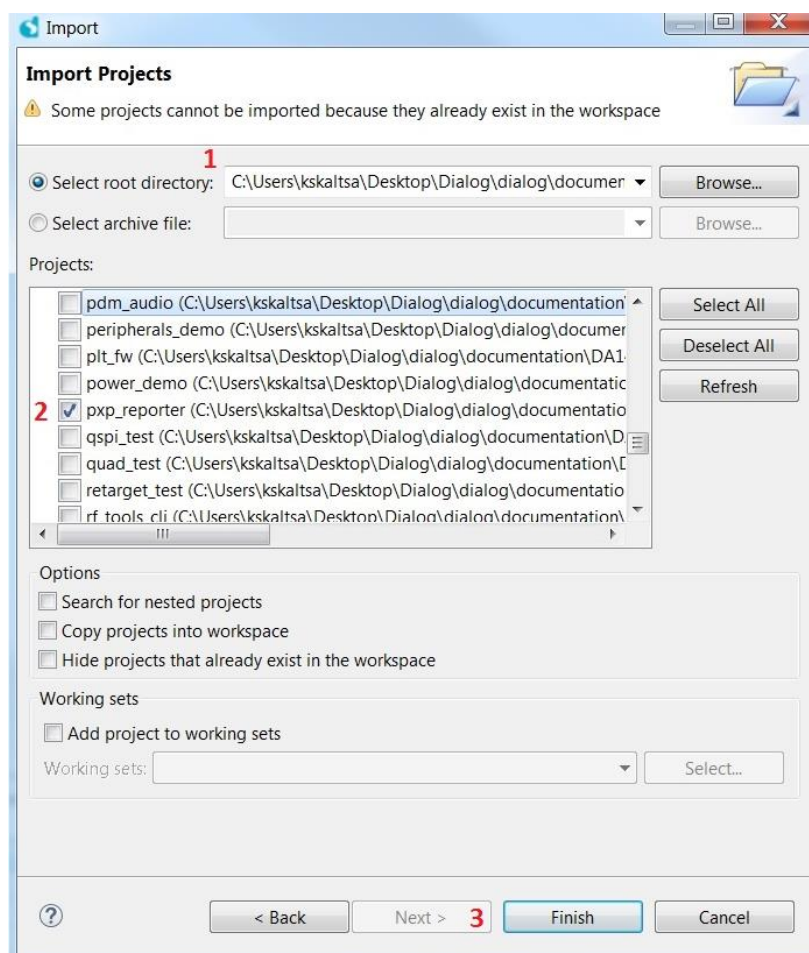

Figure 3: Importing “pxp_reporter” into Eclipse
1. Find the folder that contains the project and click “OK” (the project location is shown in Figure 3, Reference Point 1).
2. Tick the **pxp_reporter** (Figure 3, Reference Point 2).
3. Click **Finish** (Figure 3, Reference Point 3).